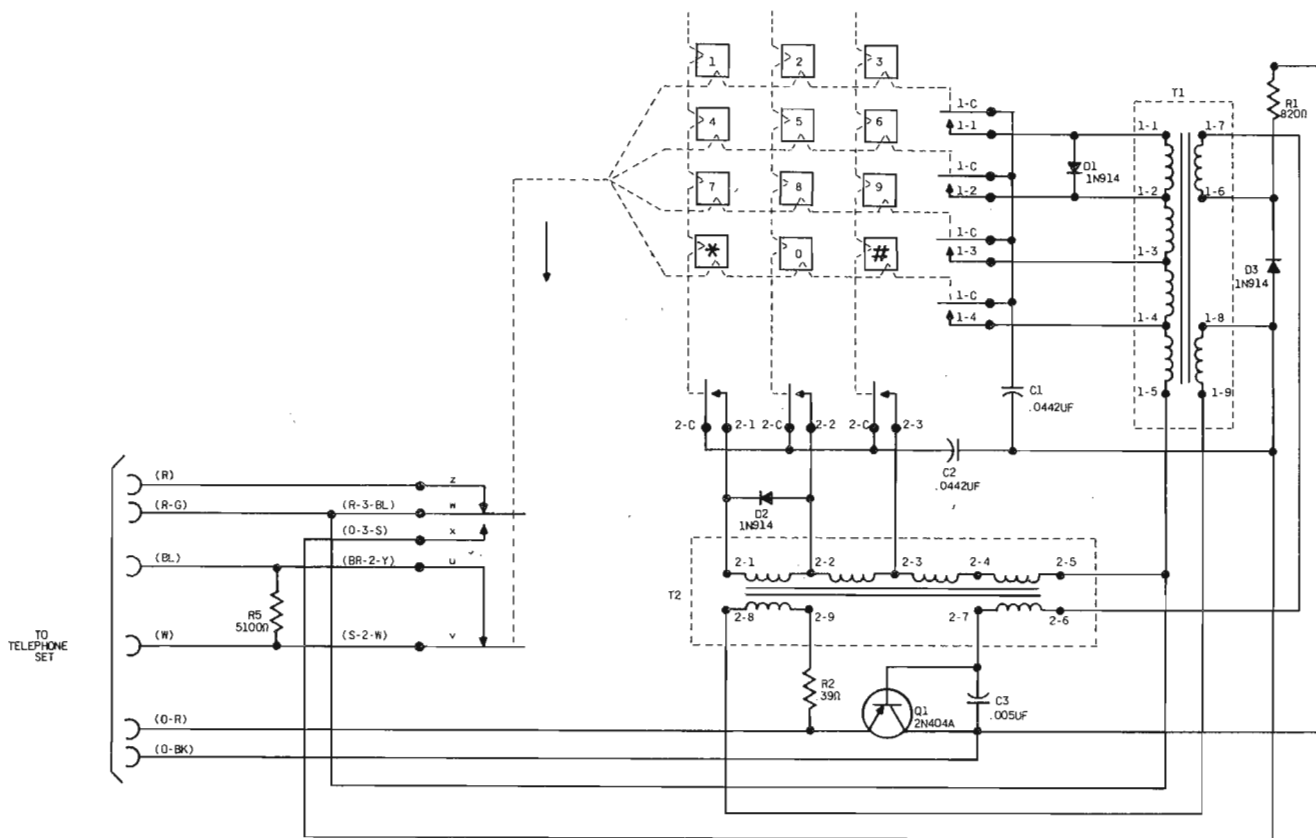

Fig. 8 — NE-35Q3E Dial Schematic (MD)
- Fig. 8 – NE-35Q3E Dial Schematic (MD)